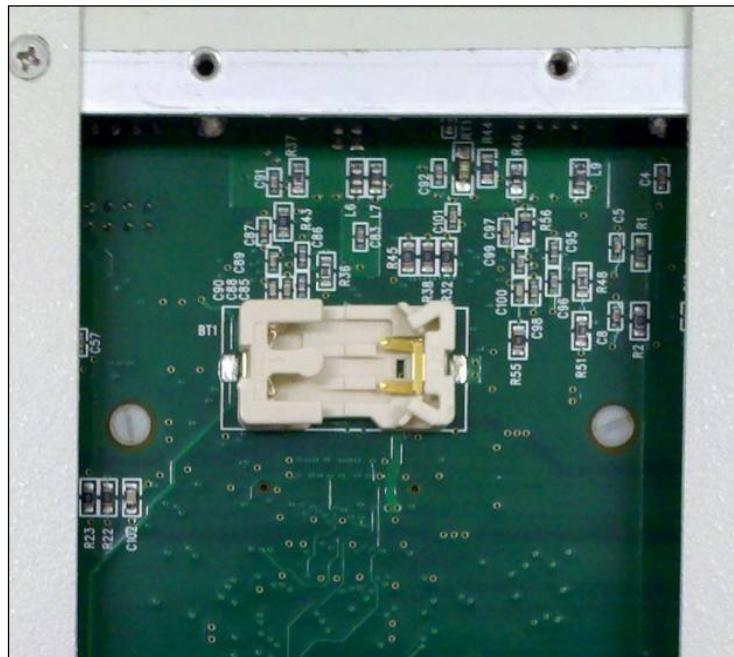

Figure 15-6
- e. Lift the other end of the battery up and slide it out. The battery holder will appear as shown in Figure 15-6.